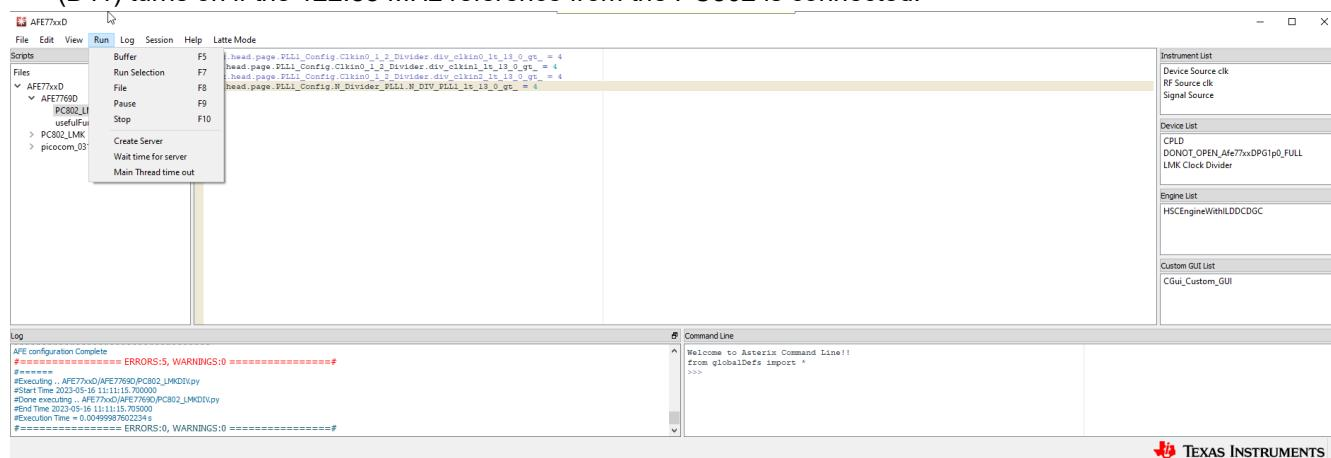

Figure 3-16. Running the LMK Script
9. Run the script by pressing F5 or by clicking Run > Buffer. You should see an output in the log window like Figure 3-16, signaling the script was run with no errors. After running this script, the LMK_LOCKED LED (D11) turns on if the 122.88 MHz reference from the PC802 is connected.